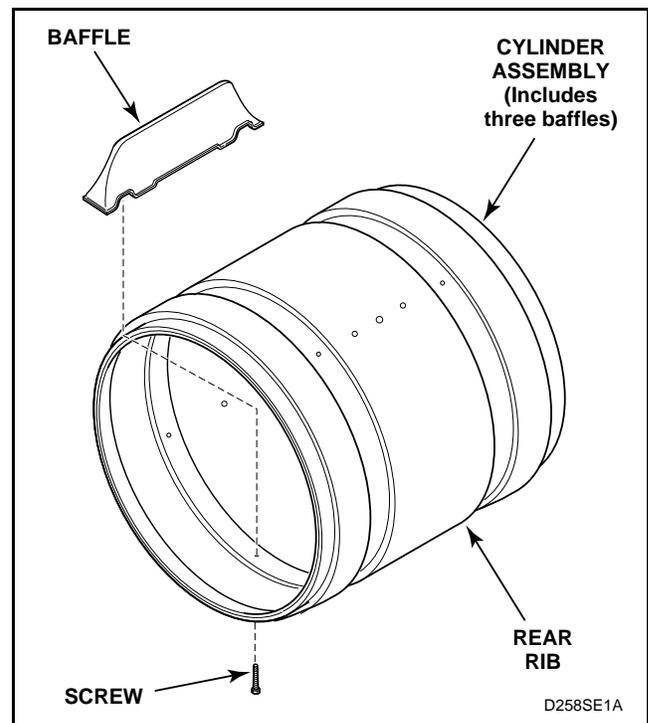

Figure 30
- i. Baffles – Remove screws holding baffles to cylinder. See *Figure 30*.